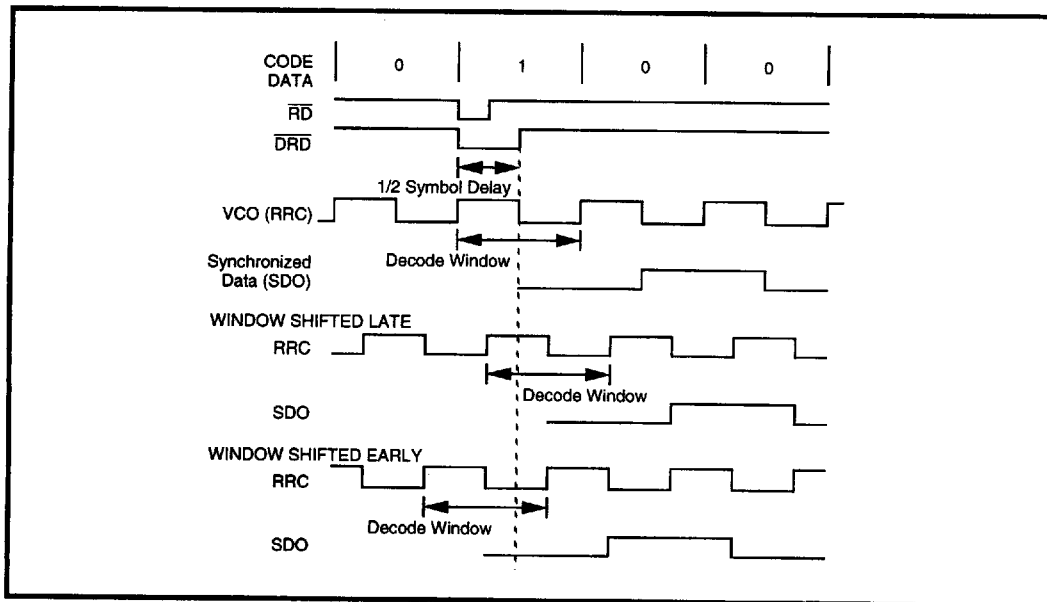

FIGURE 3: Read Data Synchronization Waveforms
The data synchronizer utilizes a fully integrated fast acquisition PLL to accurately develop the decode window. Read gate (RG) initiates the PLL locking sequence and selects the PLL reference input; a high level (read mode) selects the internal \overline{RD} input and a low level selects the reference clock. In the read mode the falling edge of \overline{DRD} enables the phase detector while the rising edge is phase compared to the rising edge of the VCO reference (VCOR). \overline{DRD} is a 1/2 symbol wide (TVCO) pulse whose leading edge is defined by the falling edge of \overline{RD} . A decode window is developed from the VCOR clock. Read data synchronization waveforms are shown in Figure 3.
Window shift early and window shift late waveforms are shown in Figure 3. The window shift magnitude is set as a percentage of the full decode window, in 2.4% steps. This results in a window shift capability of $\pm 36\%$. The tolerance of the window shift magnitude is $\pm 20\%$. Window shift should be set during idle mode or write mode.